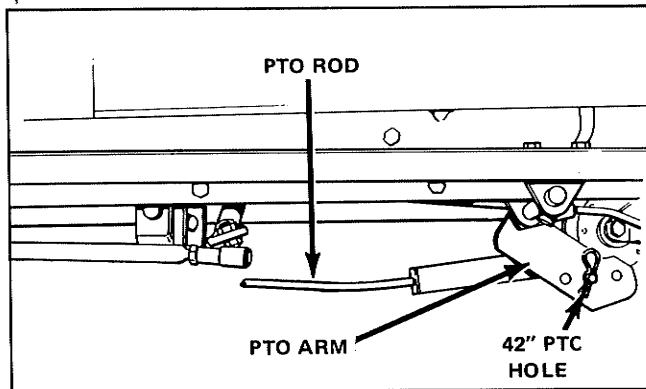

Figure 9. Attaching PTO Rod
10. Attach the PTO rod guide to the PTO lever arm, using the center hole of the arm, as shown in figure 9.